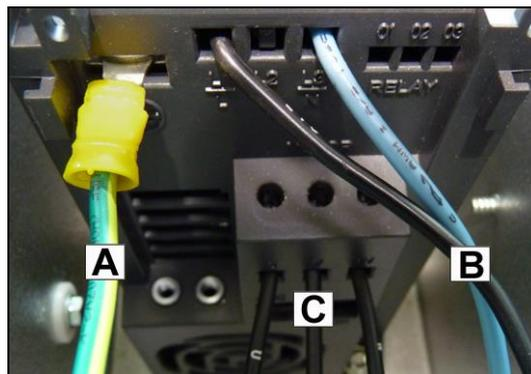

Fig. 3.18
5. Disconnect the earth cable **A**, power cables **B** and output to motor **C** from the inverter (Fig. 3.18).